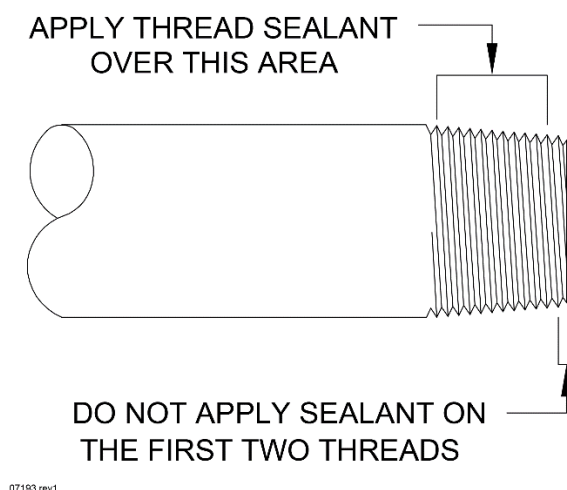

Figure 11 – Applying Thread Sealant
2. Apply thread sealant to the fuel line threads as per Figure 11 where the fuel line protrudes from the bottom of the cabinet.